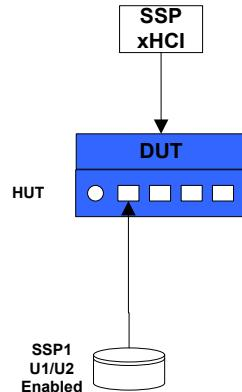

Figure 6-23: Compound Device and U1/U2 Enabled Device
- o Attach tree to the host as shown in Figure 6-23